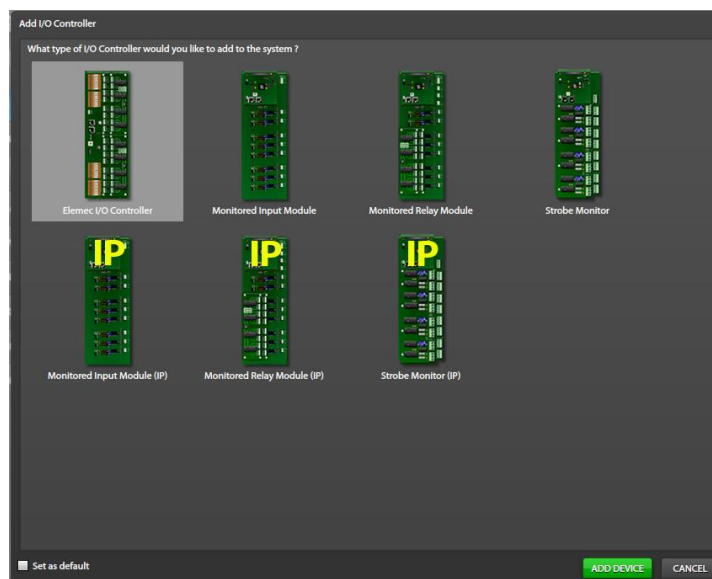

Figure 49. Add I/O Controller
2. Select one of the seven types of I/O controller on the ADD I/O CONTROLLER screen (see Figure 49).